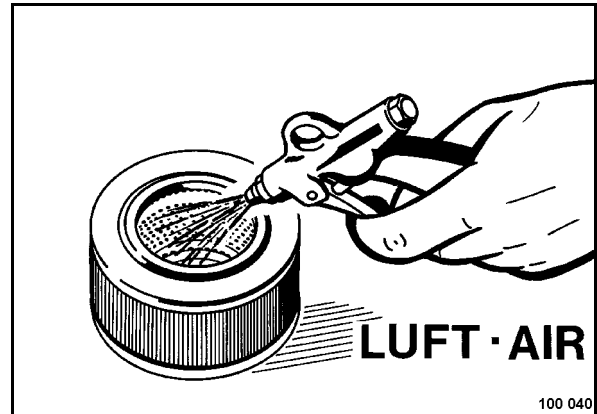

Fig. 80
- Blow the air filter out from inside to outside with dry compressed air (max. 5 bar (72 psi)) (Fig. 80).